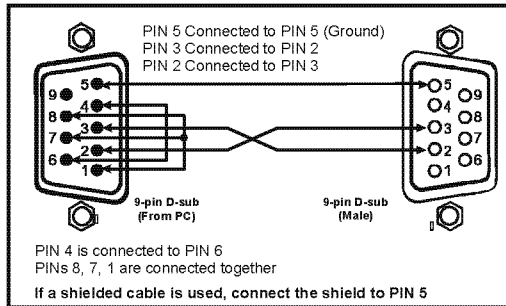

Figure 4: Connecting a PC without using a Null-modem Adapter
- Connect the RS-232 9-pin D-sub port on your PC to the RS-232 9-pin D-sub rear panel port on the Master **VS-88DVI** unit, as Figure 4 illustrates